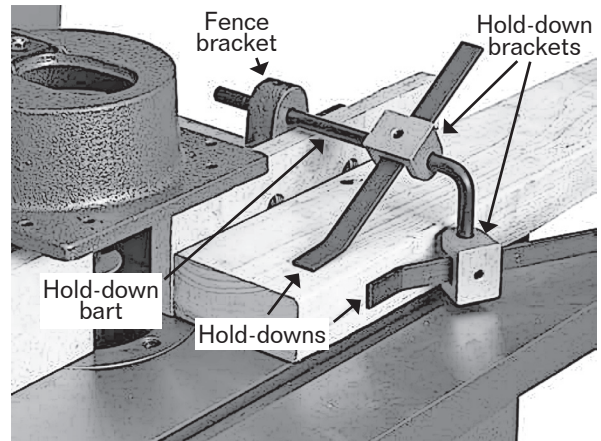

Fig 19. Use hold-downs from both sides.
Hold-downs are used to hold the workpiece flat on the table and snug against the fence as shown in Figure 19.
4. Slide each hold-down between a hold down bracket and hold down bar as shown in Figure 19.